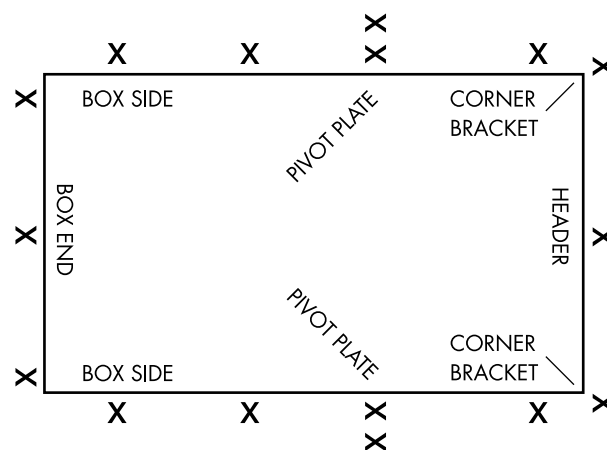

**FIGURE 5**
**A.** Be sure stairway is square and level in the rough opening. If the stair frame has bowed while the stairway was in inventory, nails and blocks of wood used as shims will straighten it. Bowing is normal since wood parts are subjected to strong spring tension for some time before purchase and installation (see FIGURE 5).